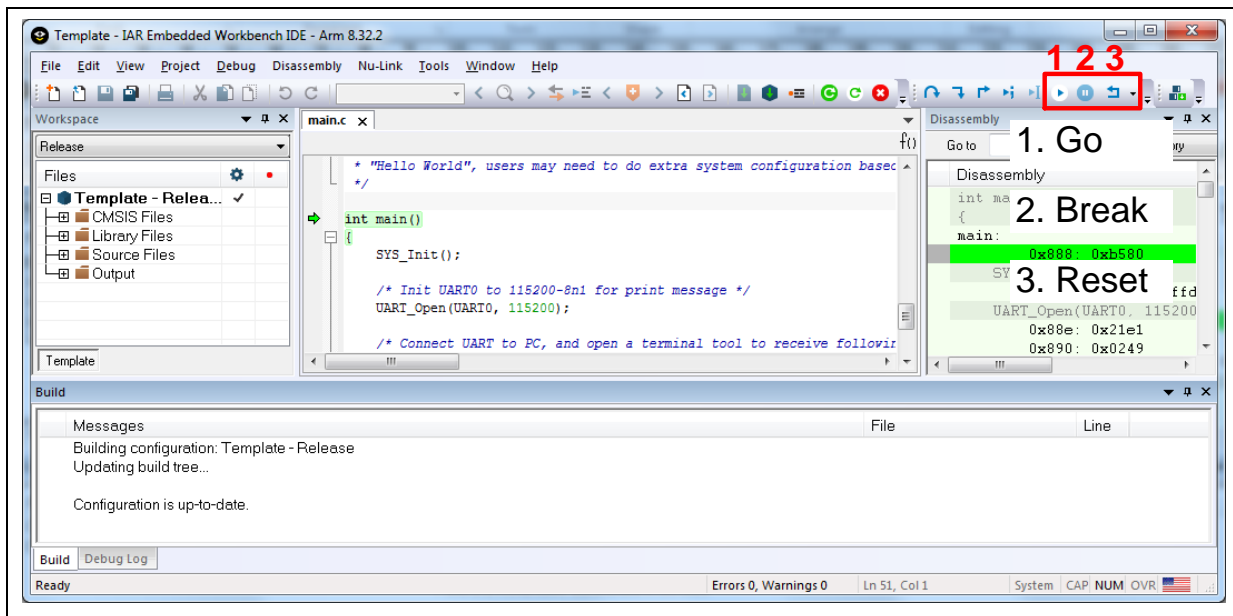
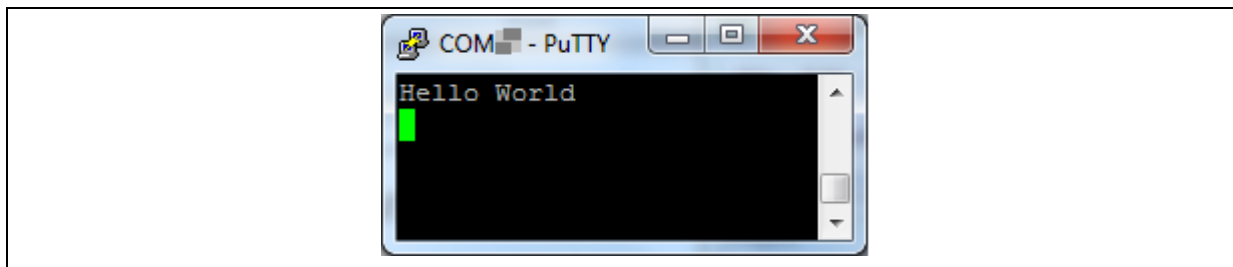

Figure 4-17 IAR EWARM Debug Mode
Figure 4-18 Debug Message on Serial Port Terminal Windows
4. Figure 4-17 shows the debug mode under IAR EWARM. Click “Go” and the debug message will be printed out as shown in Figure 4-18. User can debug the project under debug mode by checking source code, assembly language, peripherals’ registers, and setting breakpoint, step run, value monitor, etc.